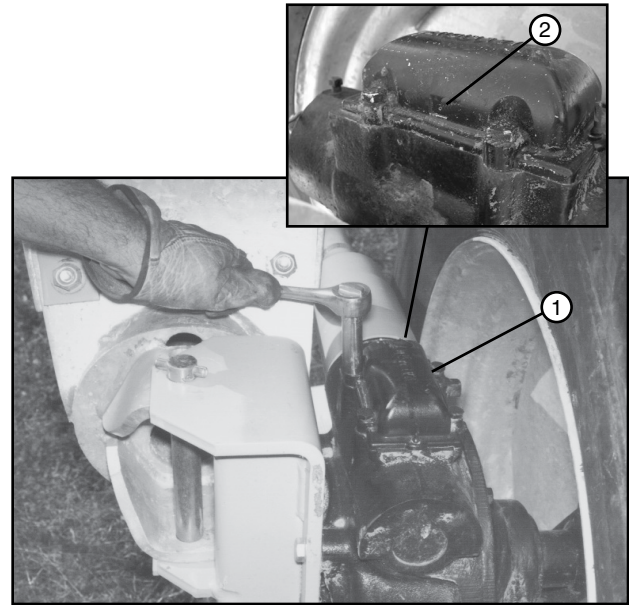

Figure 33-1 1. Expansion chamber cap
Make sure vent holes on each side of expansion chamber cap are open and unobstructed. See figure 33-1.
2. Remove and retain drain plug from bottom of gearbox and drain oil into a container. See figure 33-1.
5. Fill gearbox with Valley Gear Oil until oil begins to flow out of oil level hole or until oil covers the worm gear. Install check plug in oil level hole, in the side of gearbox and tighten completely. See figure 33-1.